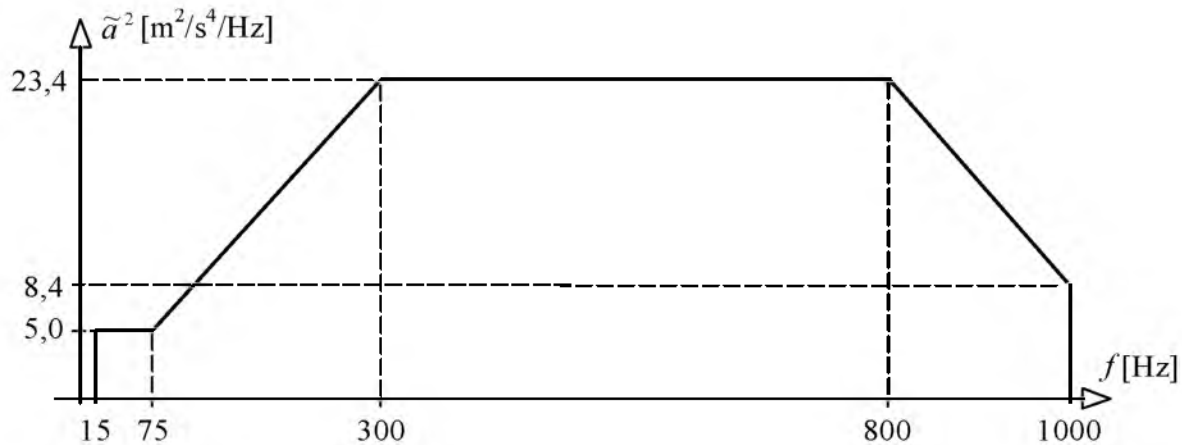

Figure 2 Acceleration power density spectrum used during test.
Suppose a microelectronic system developed for aeronautic applications is subject to a vibration test aiming to investigate its ability to operate in a vibrating environment. The vibration environment is specified in terms of an acceleration power density spectrum, i.e. the mean square value, see exercise 46, of the acceleration is given as function of frequency, see Figure 2.
- a) The `quad` command requires the integrand to be specified as a function providing a vectorial output y containing integrand values for the vectorial input x . Write a function m-file that calculates the values of an arbitrary piece-wise linear function, see for instance the power density spectrum function in figure 2 above.
- c) Try the code on the spectrum in Figure 2.